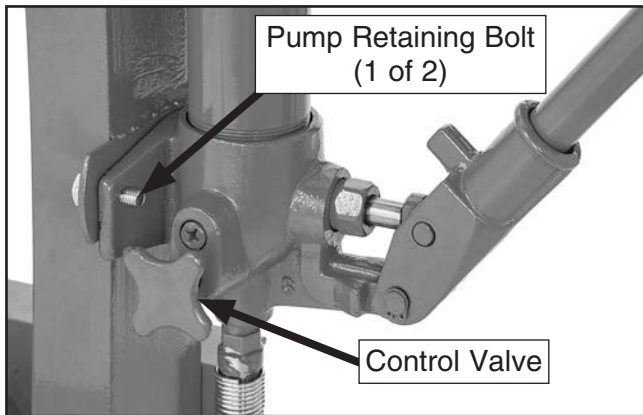

Figure 27. Control valve.
1. Open the control valve (see **Figure 27**), and allow the press and the piston to fully retract until the pressure gauge reads zero.